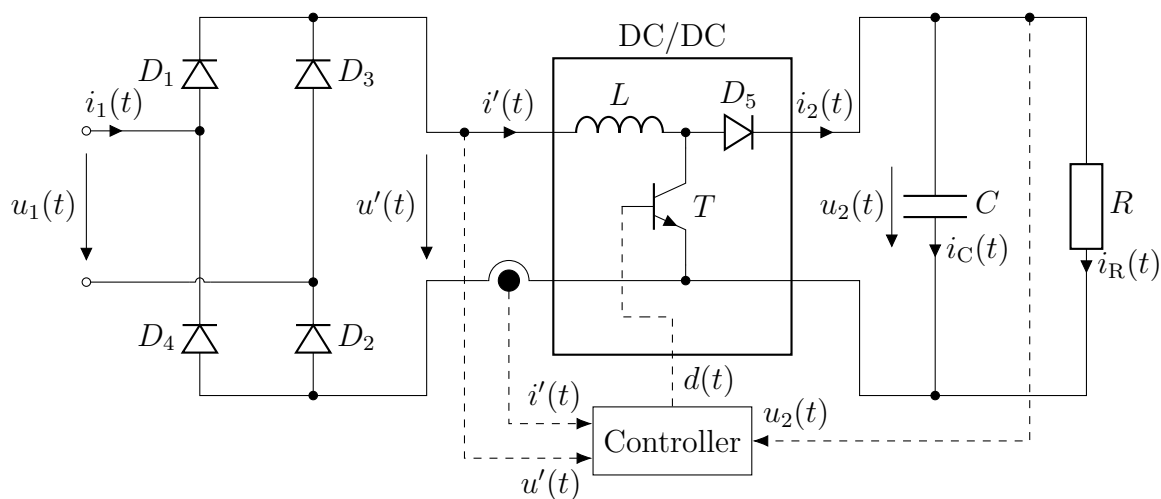
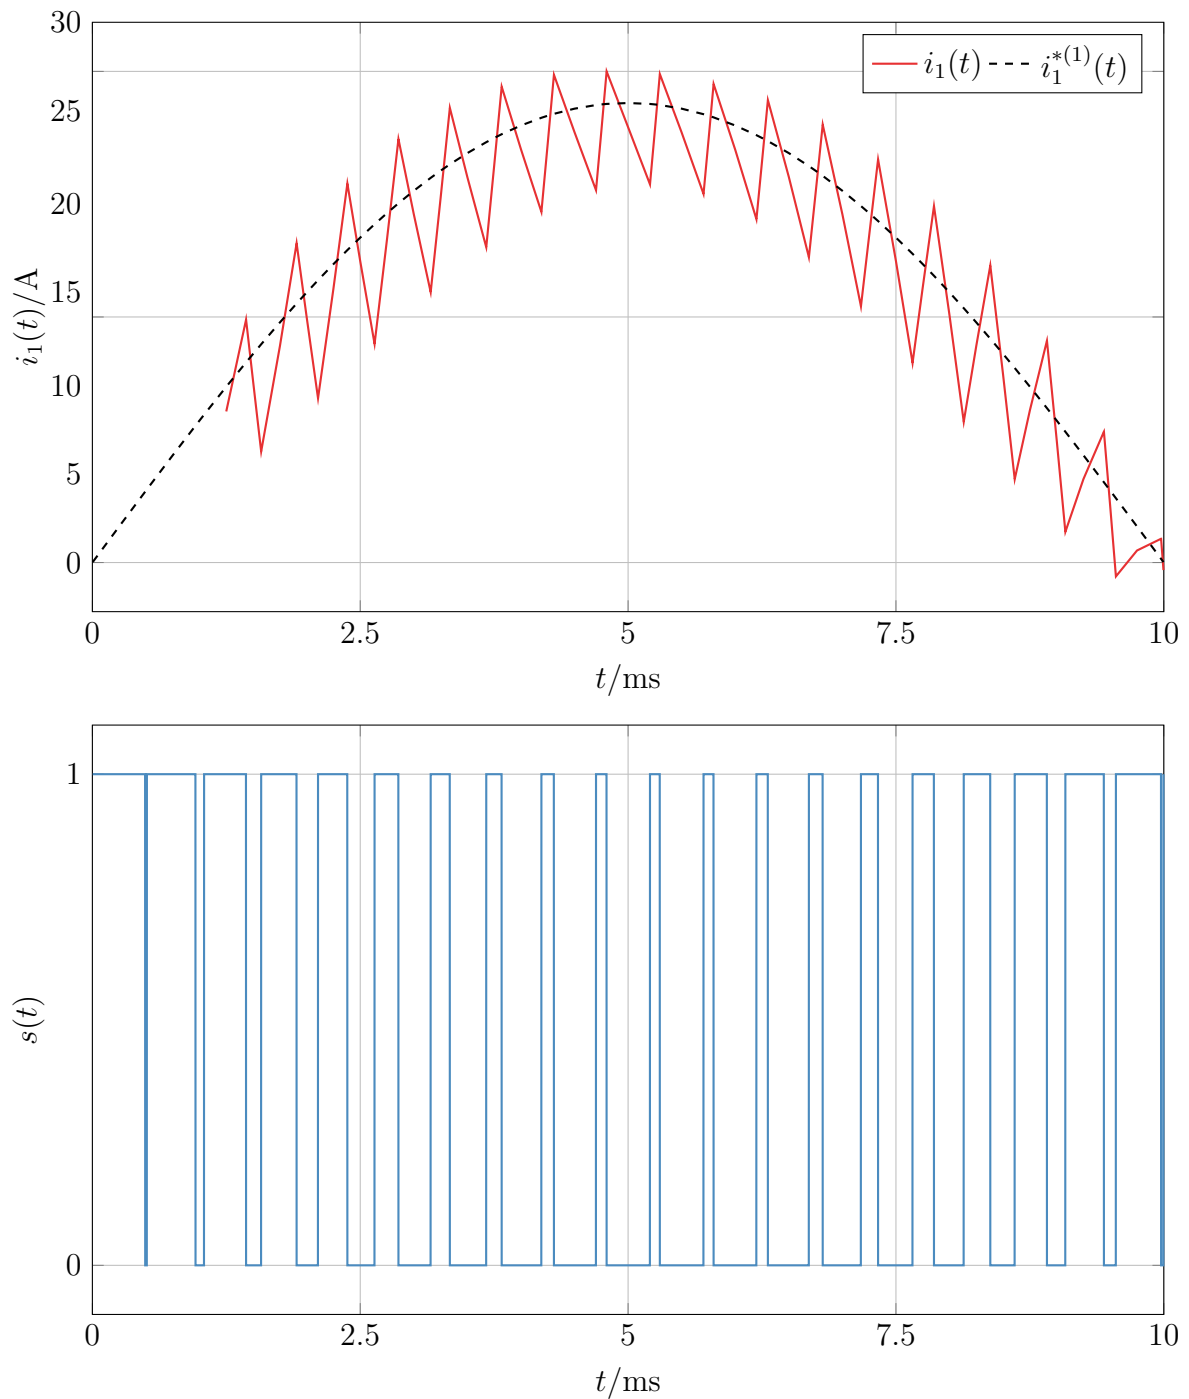
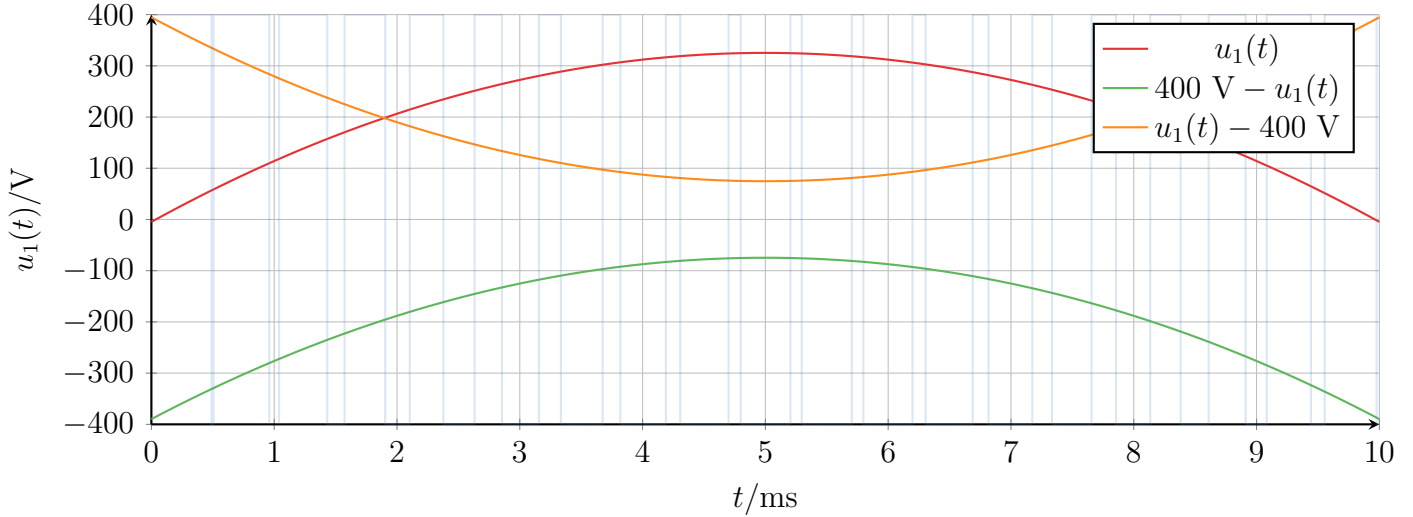

Figure 5.2.1: PFC rectifier with single-phase diode bridge and a cascaded DC/DC boost converter.
Figure 5.2.2: Incomplete representation of the mains current $i_1(t)$ and control signal $s(t)$ for power transistor T .
Figure 5.2.3: Voltage curve $u_1(t)$ with signal for transistor T .
Due to the constantly increasing load on the grid with harmonics as a result of the use of power converters, the regulations regarding the permissible harmonic content of the current consumption of electrical consumers are being tightened. It is therefore necessary, e.g. for the rectification of single-phase AC mains voltage, to design power converters with a high power factor. A variant of a PFC rectifier circuit is shown in Fig. 5.2.1. The prerequisite for the use of the boost converter is: $u_2 = U_2 > u'(t)$. The boost converter is operated with a pulse width modulated (PWM)-based controller for which the switching frequency f_T has a constant value $f_T = 20 \text{ kHz}$. CCM is assumed as the operating mode.
5.2.4 Complete the current curve for a switching frequency $f_{s2} = 2 \text{ kHz}$ and an inductance $L = 5 \text{ mH}$ in Fig. 5.2.2. Note: At the time $t = 0$ is $i' = 0$. The switch-on and switch-off times are determined by
The values determined in this task for mains current $i'(t)$ must be entered in Fig. 5.2.2. This results in Sol.-Fig. 5.2.1. Figure Sol.-Fig. 5.2.2 shows that with this type of PWM current open-loop control, an nonphysical duty cycle signal of $d(t) > 1$ is necessary at the beginning of the period. This results in a open-loop control deviation, that is, a mismatch between the reference and the actual current cruves. An alternative to prevent this deviation would be to implement a feedback control system. This closed loop allows the deviation caused by $d(t) > 1$ to be compensated for downstream.
5.2.5 Approximately sketch the envelope of the current ripple in Fig. 5.2.2. Sketch the voltage across the inductor in Fig. 5.2.3 and enter the average value of the voltage as an approximation. How would the switch-on/switch-off ratio of the transistor have to be changed before and after the current peak in order to bring the average actual current value closer to the current setpoint?
Solution Figure 5.2.1: Overall representation of the mains current i' and transistor T control signal.
Solution Figure 5.2.2: Reference signal $c(t)$ and duty cycle signal $d(t)$.
The envelope of the current ripple is sketched in Sol.-Fig. 5.2.1. In addition, the voltage at the inductor is sketched in Sol.-Fig. 5.2.3. The mean value of the voltage across the inductance is zero. To bring the average actual setpoint value closer to the setpoint current value, the transistor must be switched on for longer before the current maximum in Sol.-Fig. 5.2.1 and the switch-on phase must be shortened after the current maximum. By adjusting the switching ratio in this way, the current can be better regulated.
Solution Figure 5.2.3: Voltage curve $u_1(t)$ with signal for transistor T and voltage across the inductor.